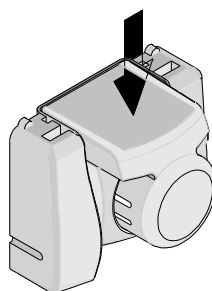

Figure 6B
5. Press the red insert down as far as it will go as shown in Figure 6B.
6. Holding onto the lower part of the locator with your thumb and index finger, insert the locators top hooks (2) into the hand tool top slots.